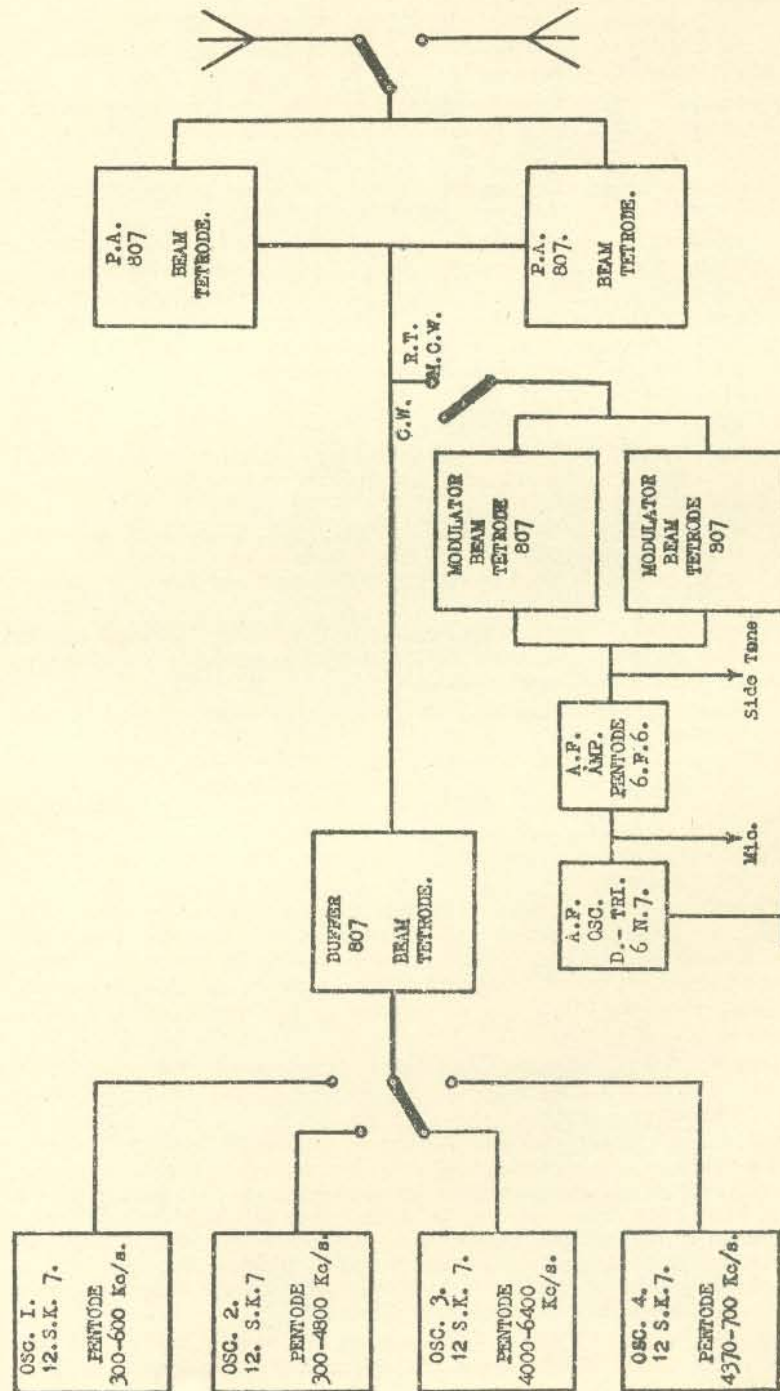

FIG. 92.—Block diagram transmitter, T.A.--12B.
3. **Transmitter** (block diagram fig. 92).—(i) *Frequency range.*—There are four ranges :—